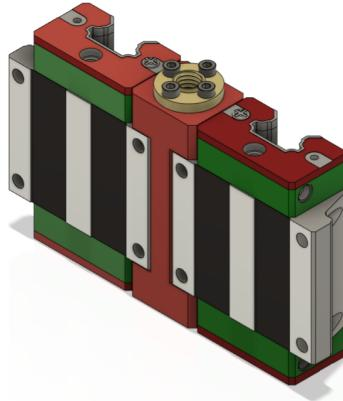

Figure 14.1
4. Align the two HGW20 blocks on either side of the assembled T8 riser as shown in Figure 14.1.